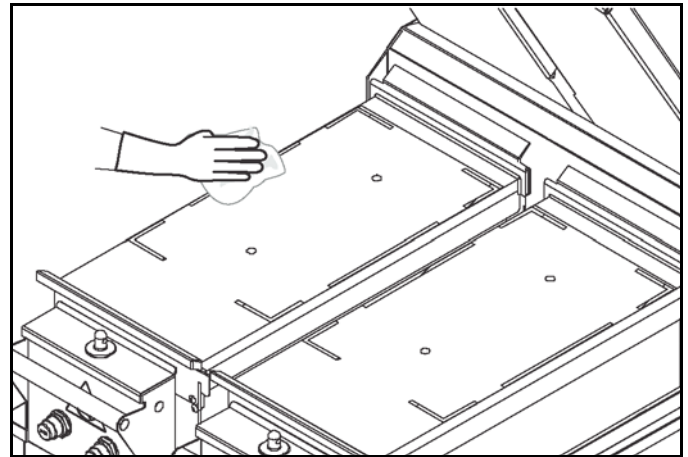

Figure-125
32. Wipe the outer edges of the lower plate. See Figure-125.